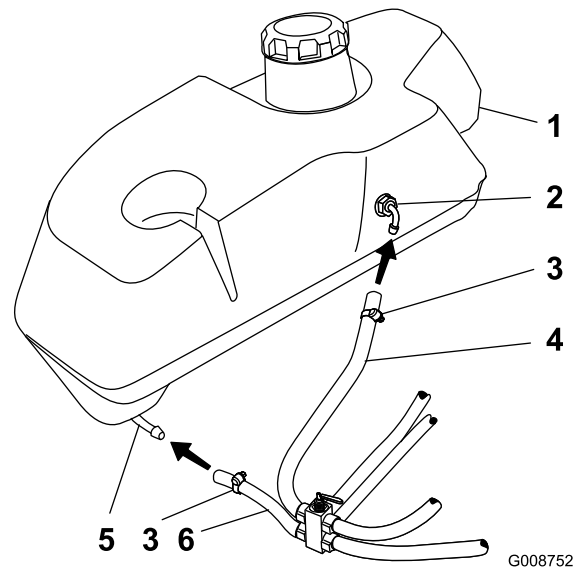

Figure 9
6. Install the short hose to the front right hand fuel tank connection (Figure 9).
7. Install the longer hose to the rear right hand fuel tank connection (Figure 9).